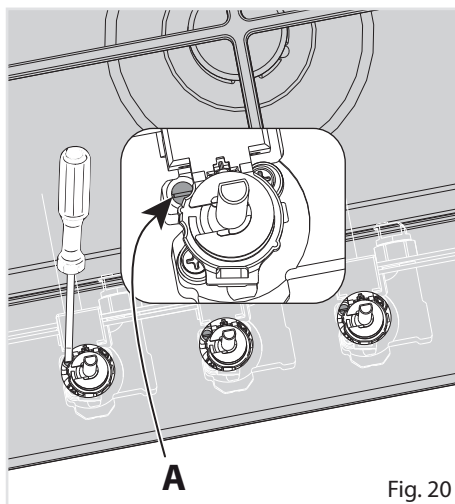

Fig. 20
- With a small flat screwdriver turn the screw "A" to the correct regulation (fig. 20).